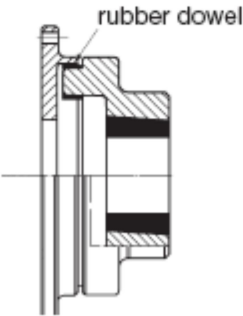

fig. 24
13.12 Replacing the rubber dowels of GFB flexible couplings (fig. 24)